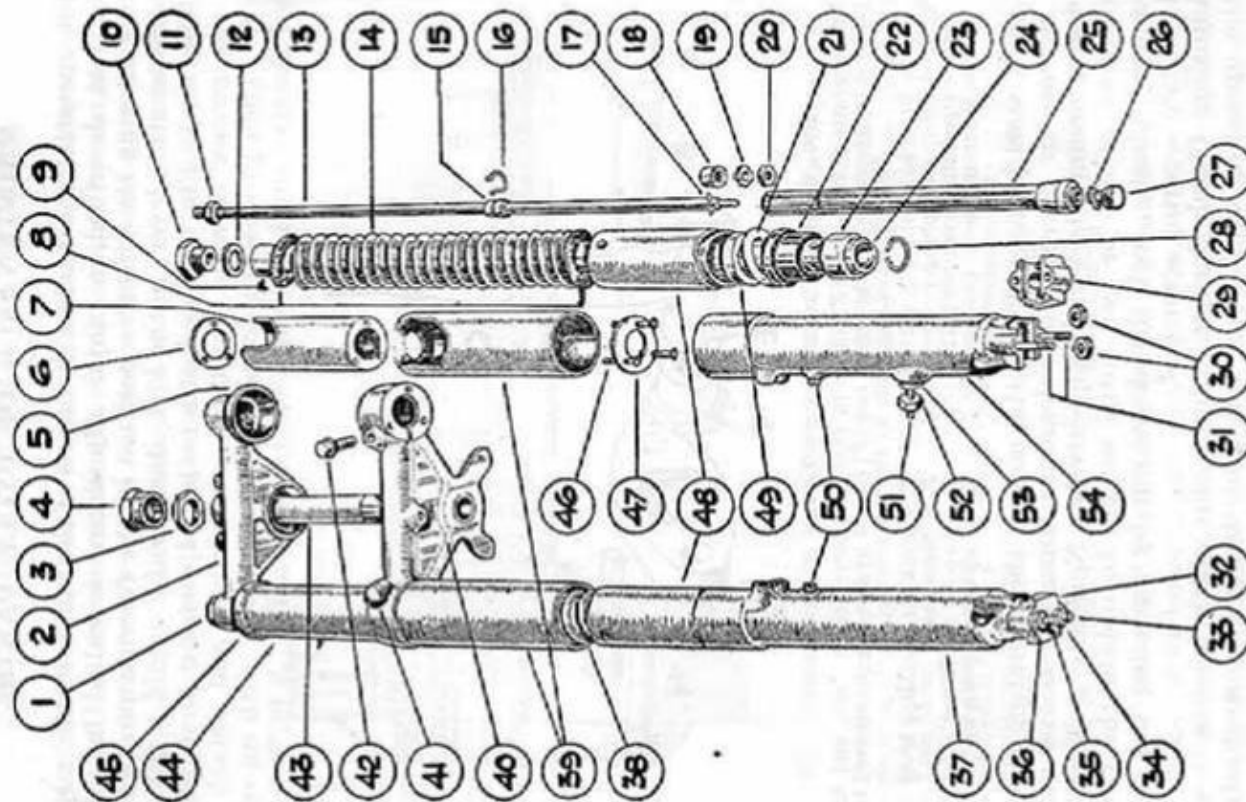

Fig. 69. SHOWING STEERING HEAD ADJUSTMENT AND DETAILS OF 1945-7 "TELEHYDRAULIC" FRONT FORKS
Maintenance of "Teledraulic" Front Forks. Apart from checking the level of the hydraulic fluid occasionally (pages 41-42) and topping-up if necessary, no attention is called for. No adjustment is necessary and all working parts are automatically lubricated by means of the hydraulic damping fluid. Unless damage has been accidentally sustained, the "Teledraulic" front forks (see Fig. 69) should normally not require to be dismantled. However, after a very big mileage (say, 20,000 miles) the oil seal and paper washer in each fork leg, shown at (49) and (21) respectively in Fig. 69, may require attention. The same applies to the leather and fibre washers.
KEY TO FIG. 69
To Adjust Steering Head. Referring to Fig. 69, the following is the correct procedure for adjusting the steering head. It is assumed that the front wheel is quite clear of the ground. Loosen the two pinch-bolts (41) and (42) in fork crown. On 1948-9 models slacken the nuts on the two studs (replacing pinch-bolts). Next slacken the domed lock-nut (4) at the top of the steering column. Having slackened the lock-nut, screw down very gradually the adjusting nut (3) for the steering head stem. This adjusting nut is located immediately below the lock-nut (4) and should be turned with the spanner shown at (13) in Fig. 54. While tightening the adjusting nut, test for steering head slackness by placing the fingers over the gap between the top frame lug and the handlebar lug, while simultaneously exerting upward pressure on the front edge of the front mudguard.
To Remove Front Wheel. Referring to Fig. 69, jack the machine up on the front and rear stands. Disconnect the yoke end of the front brake cable from the brake expander lever by removing the split pin and retaining pin. Slacken, but do not actually remove, the nut (52) which secures the front brake cover plate to the left-hand fork slider (54). The split pin securing the nut need not be disturbed. On 1948-9 models, slacken both anchorage screws instead. Next loosen the nut on the left-hand side of the front wheel spindle.
Replacing Front Wheel. Referring to Fig. 69, hold the left-hand fork slider cap (29) under the location on the front wheel spindle, and offer up the front wheel assembly and cap so as to engage the cap with its two retaining studs (31). Simultaneously engage the slot in the front brake cover plate with the anchorage stud (51) in the left-hand fork slider (54). On 1948-9 models engage with two anchorage bolts. Fit the two nuts (30) securing the left-hand fork slider cap (and wheel spindle) and tighten the nuts lightly. Then fit the right-hand fork slider cap and tighten lightly the cap securing nuts (34) and (36). Make sure that the caps have not been interchanged and are fitted exactly as before.